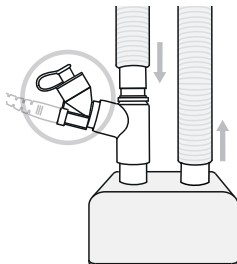

Figure 7. Aerogen Solo on dry side of humidifier
2. The Aerogen Solo can be placed between the ventilator and the dry side of the humidifier. Figure 7 illustrates a set up for the Aerogen Solo at the dry side of the humidifier. The Aerogen Solo can be used with a nasal interface in this configuration.
The Aerogen Solo can be used on/off ventilator with a nasal interface when configured with a humidifier (Figure 7).